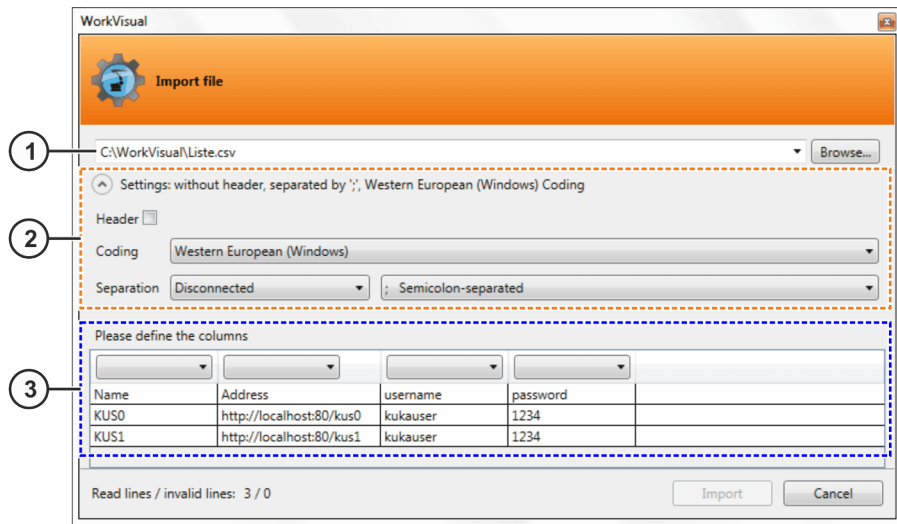

Fig. 6-21: “Import file” window
1. Click on the  button. The **Import file** window opens. (>>> Fig. 6-21)